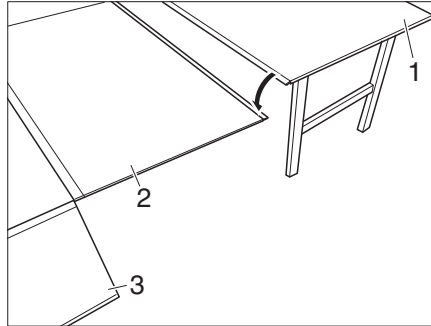
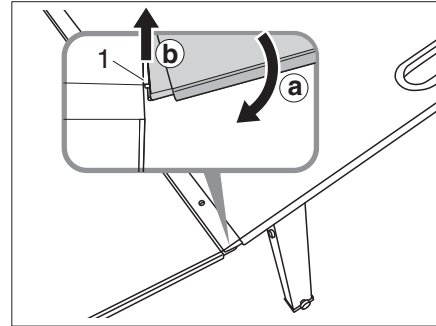

Fig. 32 Attach the table extension
Fig. 33 Attach the table
Campbox Sleep (Fig. 32,3) can be converted into an additional sleeping place in a few easy steps. The Campbox needs to be additionally installed in the vehicle (see section 7.7.4).
- Position the bed extension (Fig. 32,2) on the rails (Fig. 33,1) of the Campbox and push downwards (Fig. 33,a).
- Lift both rails at the connection points (Fig. 33,b).
- Snap the table (Fig. 32,1) into the table extension (Fig. 32,2) in the same way (Fig. 33).